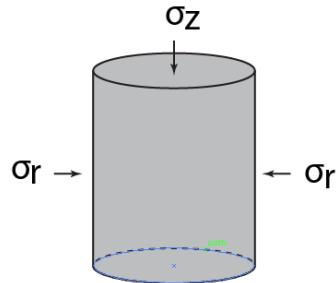
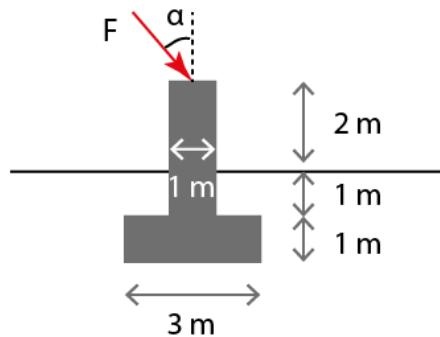

Figure 1 Triaxial Test
Figure 2 Shallow foundation subjected to vertical and horizontal forces
You are required to determine the material parameters of the classical elastic-perfectly plastic Mohr-Coulomb model for dry sands using the provided data (see the attached Excel file) from triaxial tests (Figure 1). The tests were performed with $\sigma_r = 100$ and 200 kPa, respectively. The $F-\alpha$ failure envelope for the shallow foundation shown in Figure 2 is estimated using the limit analysis with the calculated material parameters.
5. Determine the $F-\alpha$ failure envelope for the problem shown in Figure 2, show the different failure modes, and discuss the pro and con of using limit analysis method for the stability analysis of the concerned problem. (The unit weight of sands is 18 kN/m³ and the weight of the foundation is neglected) [50%].